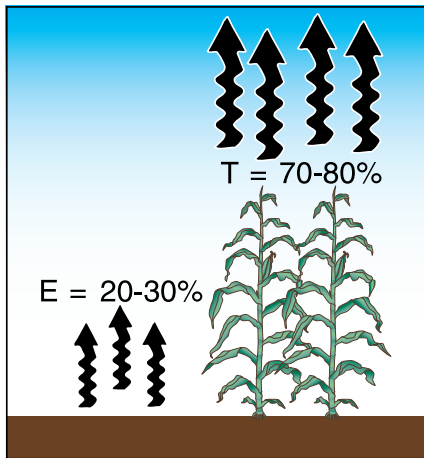

Figure 24. Percentages of seasonal evaporation and transpiration in ET.
Water used during corn production is called evapotranspiration (ET). ET is the sum of evaporation from the soil surface and transpiration from the leaves, processes that are simultaneous. Transpiration accounts for most of the ET during the growing season and the remaining is from evaporation (Figure 24). At planting, nearly all of ET comes from evaporation, while at full canopy cover, more than 90% of ET comes from transpiration.